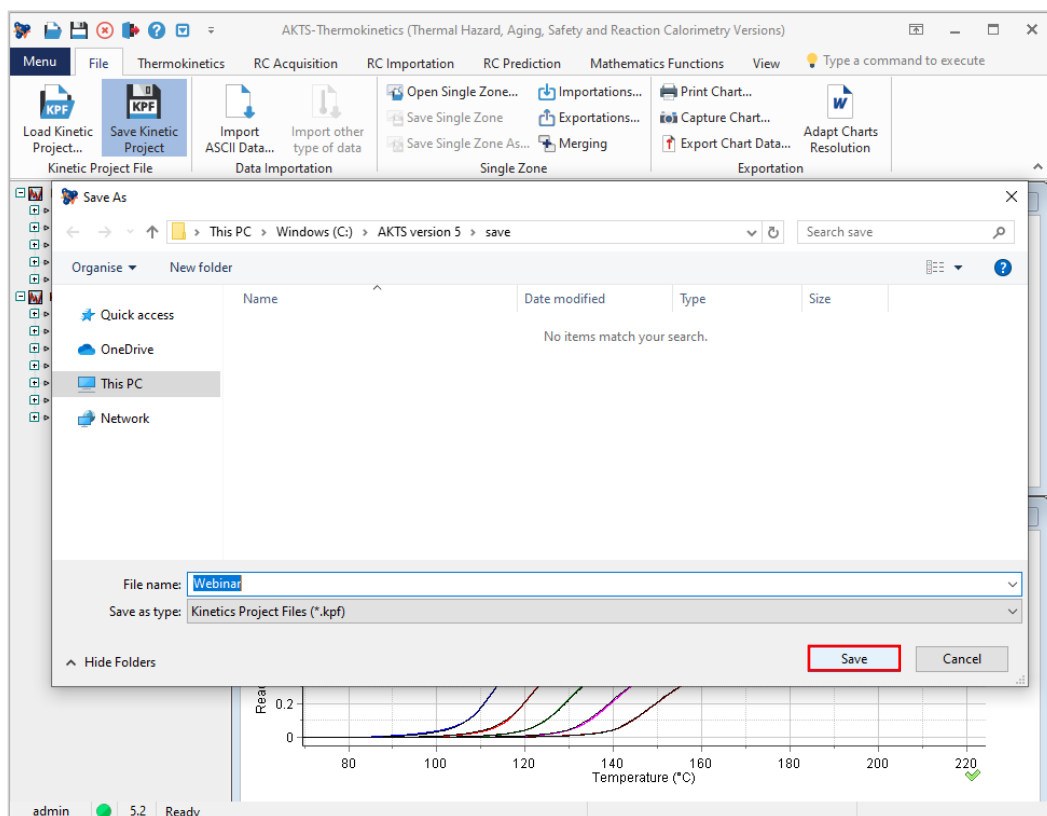

FIG. 2 - Saving the file.
**FIG. 2** - Introduce the lowest required temperature (in presented example 50°C), the temperature difference between the isotherms (here 5°C) and specify the number of isotherms (here 10). It is also possible to calculate the maximal heat release rate.